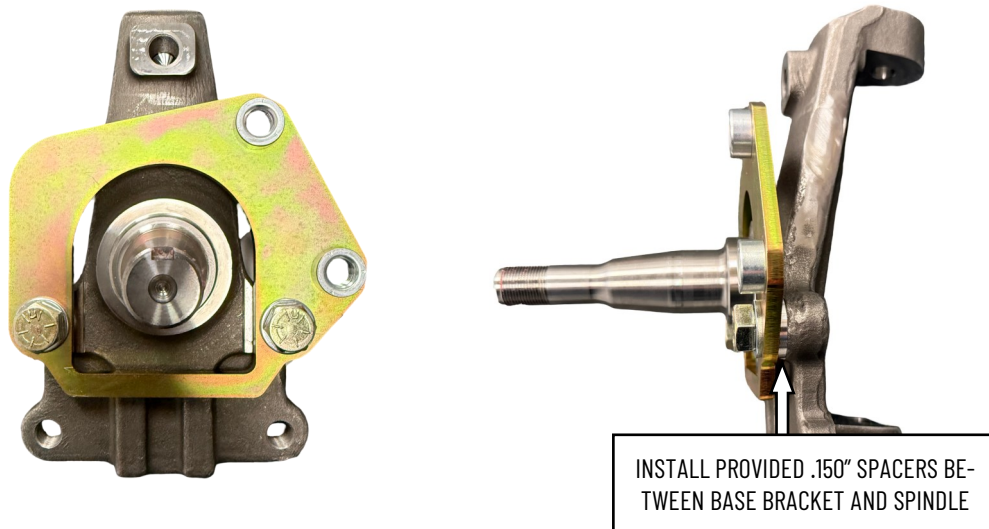

Figure 3. Based bracket install on Speedway G-Comp spindle
7. If you have the Speedway G-Comp spindles, install the base bracket to the top mounting holes in the spindle using the supplied 1/2-20 x 1.250" bolts and washers, taking care to use the supplied .150" thick spacers between the bracket and spindle. Torque the supplied 1/2-20 bolts to 110 ft-lbs. to secure the base bracket to the spindle. See Figure 3 below for reference.